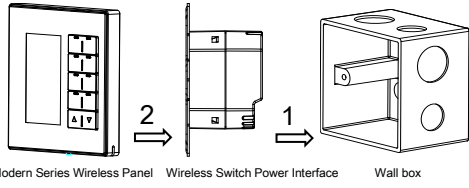

Figure 9. Installation
**Installation - See Figure 9**
Installation	Wall box (See Figure 9) (The depth of the wall box is not less than 45mm.)